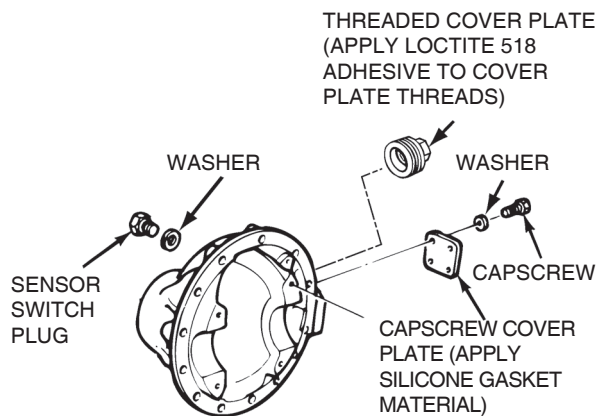

Figure 6.32
3. Install the four washers and capscrews. Tighten the capscrews to 7.4-8.9 lb-ft (10-12 N m). Figure 6.32.